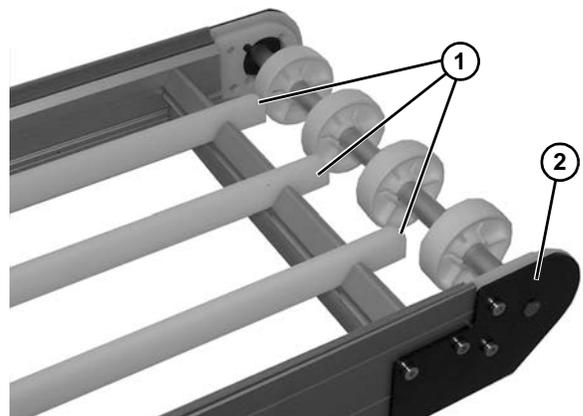

Figure 34
The rounded ends of top wear strips (Figure 34, item 1) faces the idler end (Figure 34, item 2) of the conveyor.